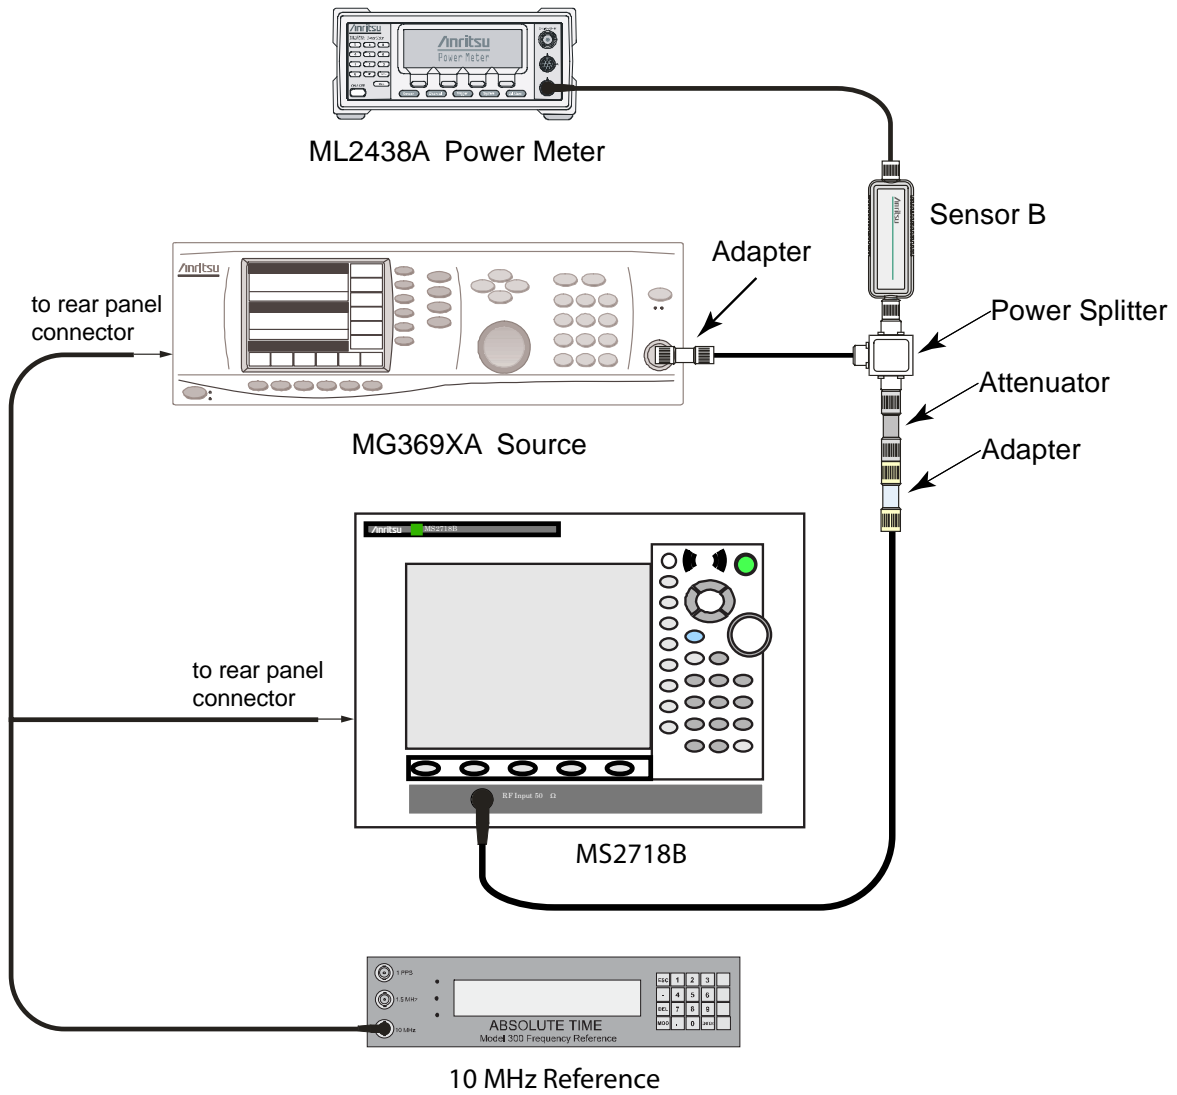

Figure 2-6. 50 MHz Amplitude Accuracy Verification Test Setup
1. Connect the equipment as shown in Figure 2-6.
1. Connect the equipment as shown in Figure 2-6